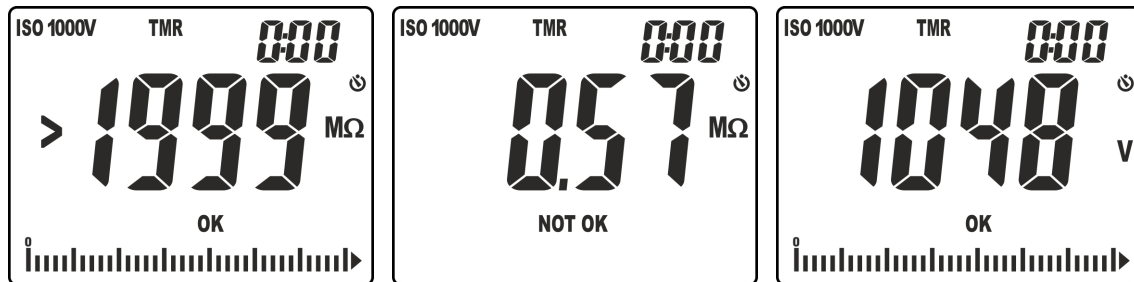

Fig. 21: Results of insulation measurement in TMR mode
9. In the screen in Fig. 21 – left side, the value of insulation resistance is present (symbol ">1999" indicates the out-of-range condition) at the end of measurement with positive result "OK" (value higher than the set threshold). In the screen in Fig. 21 – right side, the value of insulation resistance is present at the end of measurement with negative result "NOT OK" (value lower than the set threshold).